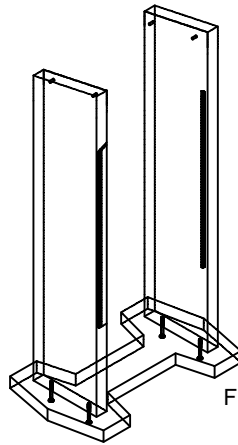

Figure 3
- A) Hold the stand vertical as illustrated in Figure 3 after Step#1.